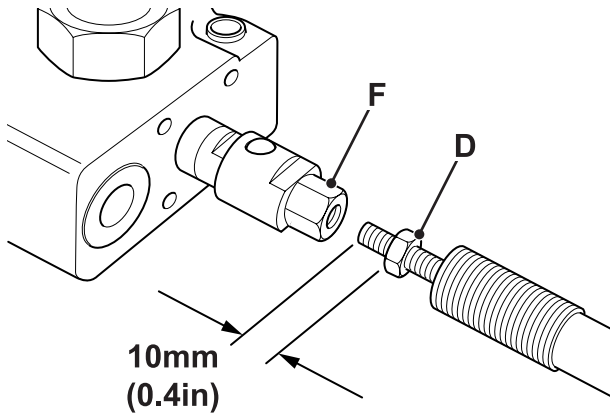

Fig 5.
- Before connecting the operating cable to the valve, set locknut **D** as shown. → Fig 5. (H8-6) In this position the locknut can be used as a guide as to how far to wind the operating cable into valve adaptor **F**.